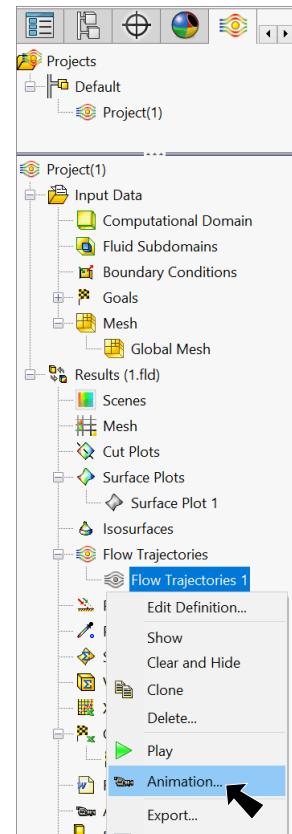

Fig. 28
- Step 2. **Right click** **Flow Trajectories 1** in Flow Simulation tree and click **Animation**, Fig. 28.